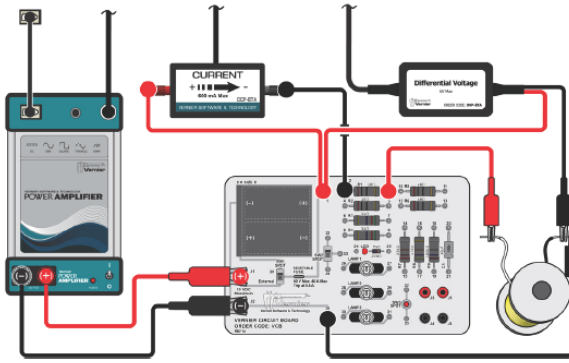

Figure 4
- Set up the circuit with a 10 Ohm resistor in series with a current probe and a 5.0 mH inductor. As shown in Figures 4 and 5.